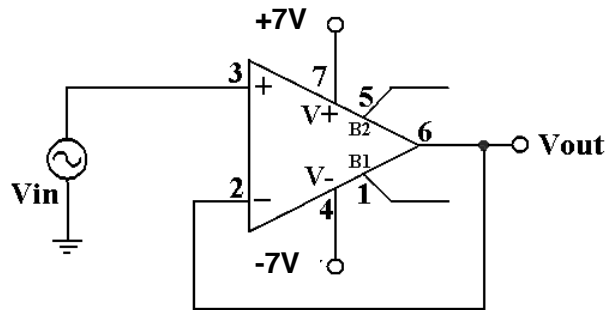

Fig. 3. Voltage Follower Configuration
- What's the voltage DC gain of the circuit shown in Fig. 3? Verify your answer using PSpice.